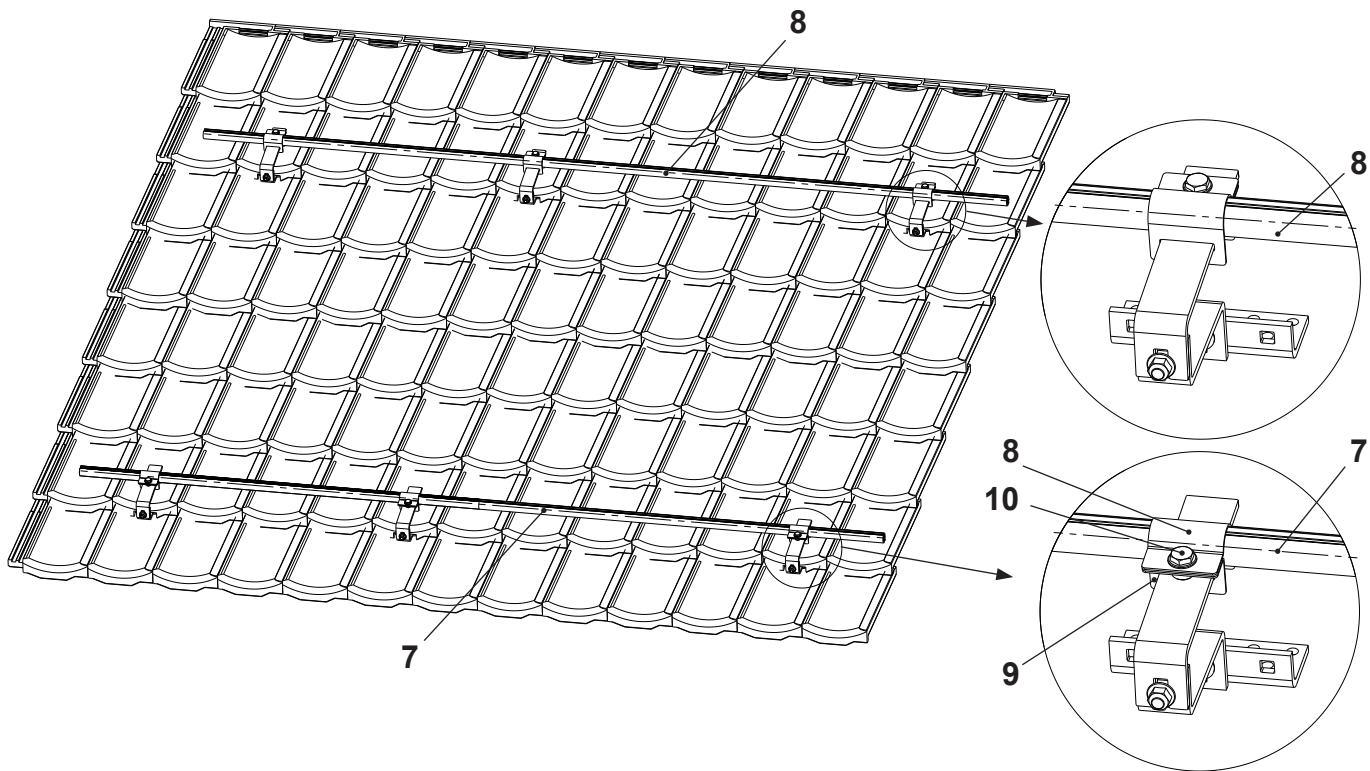

Figure 09
5. Guide the **lower** holder tube section (7, Figure 09) into the pipe clips (8, 9).